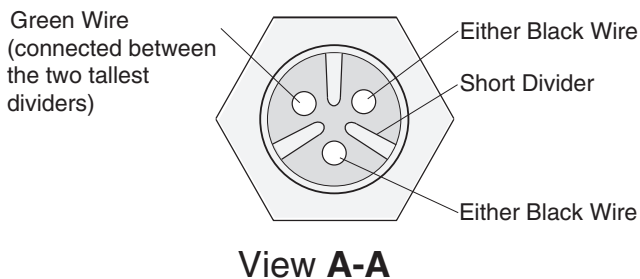

Figure 1
If no more service is needed, reverse instructions above to reassemble the pump. Reattach the motor lead wires as shown in Figure 1, fill with clean dielectric oil (Part No. U197-8A), check the oil level and replace fill plug. Oil should cover the motor windings.
10. Reattach the motor lead wires as shown in Figure 1.